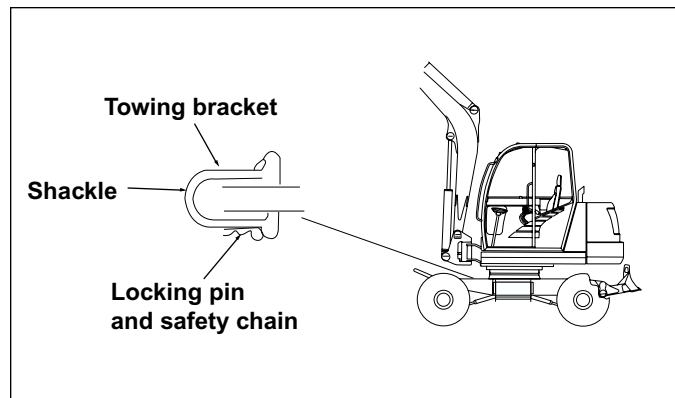

Figure 3-23. Towing Bracket
2. Secure the shackle and locking pin to the towing bracket as shown in Figure 3-23.